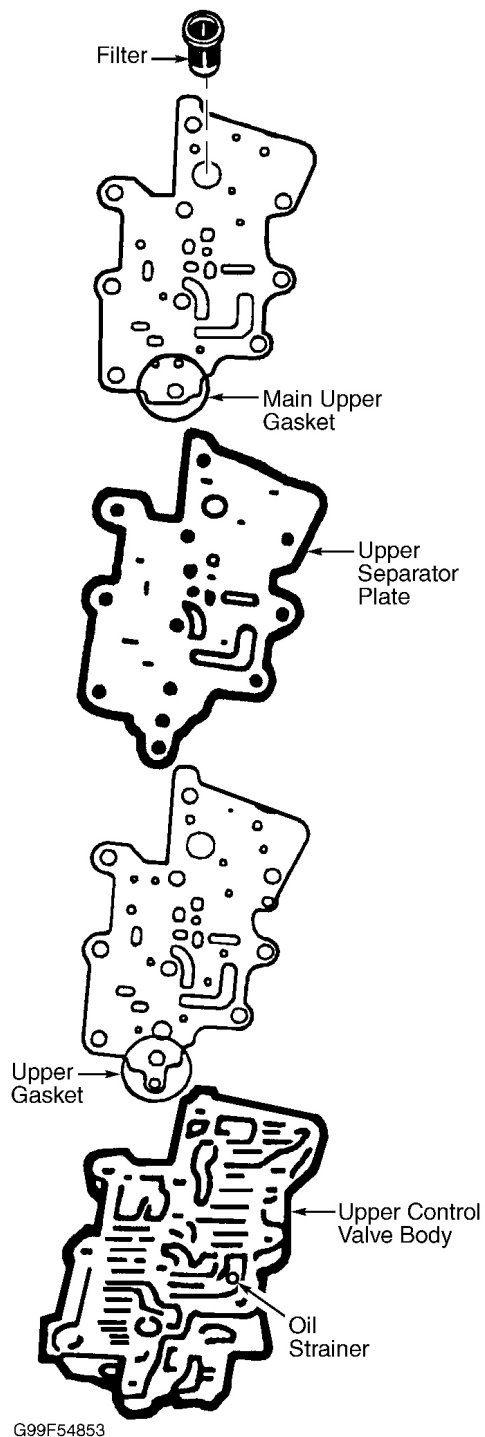

Fig. 29: Identifying Upper Valve Body Filter, Gaskets & Separator Plate
2. Unbolt and remove upper control valve body. Remove screw retaining upper separator plate and gaskets to upper control valve body. Remove upper gasket, separator plate, filter, main upper gasket and oil strainer from upper control valve body. See **Fig. 29**.